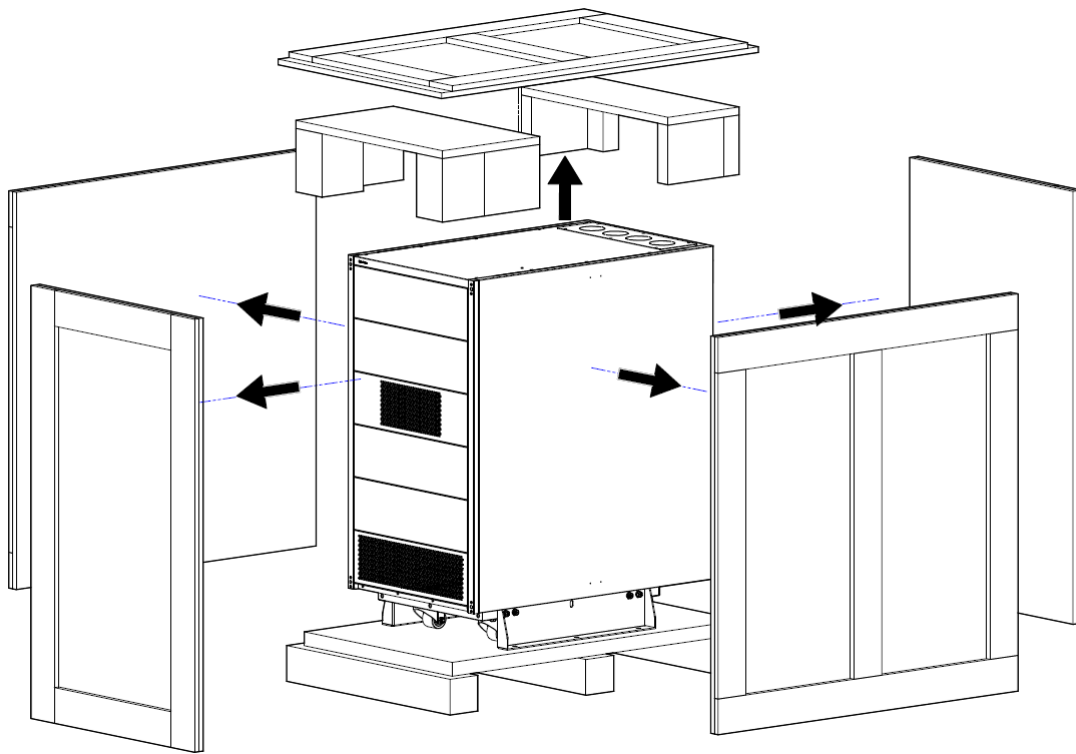

Fig. 4-2: Removed the Wood Crates of MBC45ITCT
4. Remove the 36 bolts that secure the wood crates (8 mm socket recommended). See Fig. 4-2.